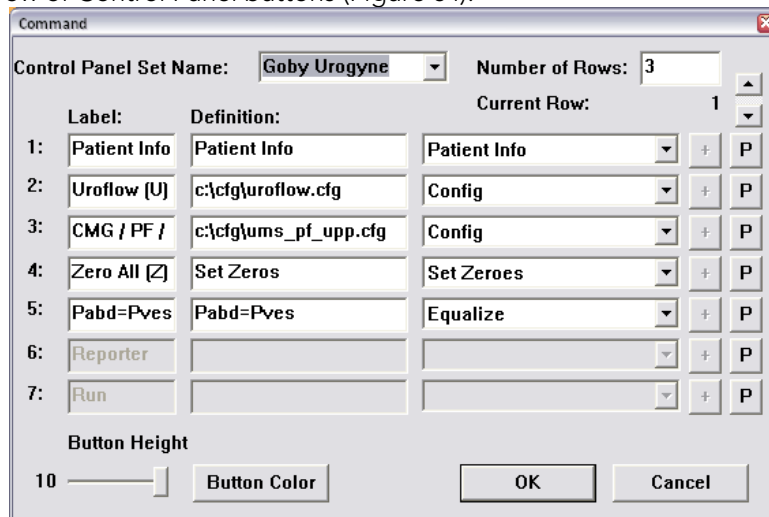

Figure 84: Command Window
1. Click **Options** from the menu bar and select **Control Panel Settings**. The *Command* window will appear displaying the first row of Control Panel buttons (Figure 84).
2. Click the **P** button next to the control panel button (Figure 84).